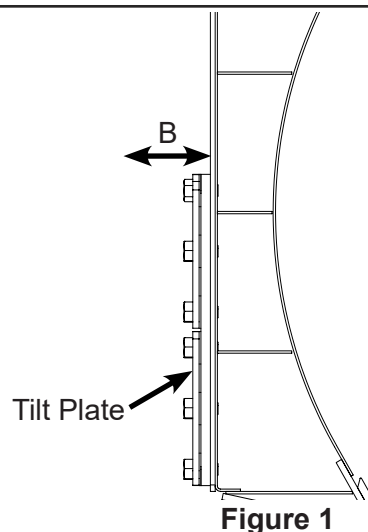

Figure 1
3. Add or remove washers as needed to adjust tilt-way clearance to have 1/16" - 1/8" of clearance in direction 'B' shown in Figure 1.